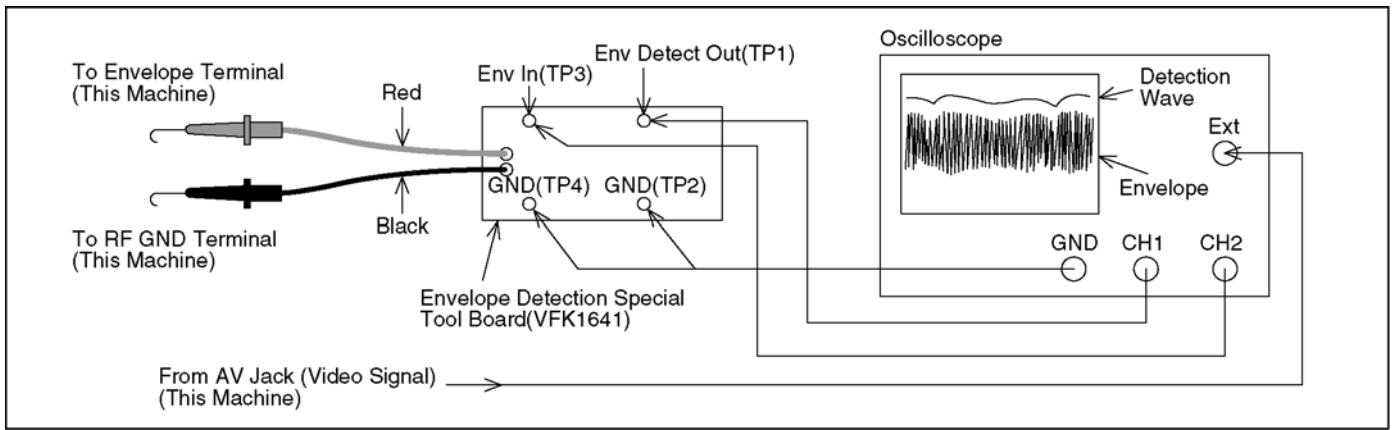

Fig. D2
3. The envelope detection special tool board (VFK1641) is connected to this machine as shown in Fig. D2 and D3.
4. The envelope detection special tool board is connected to oscilloscope as shown in Fig. D2 and D3.